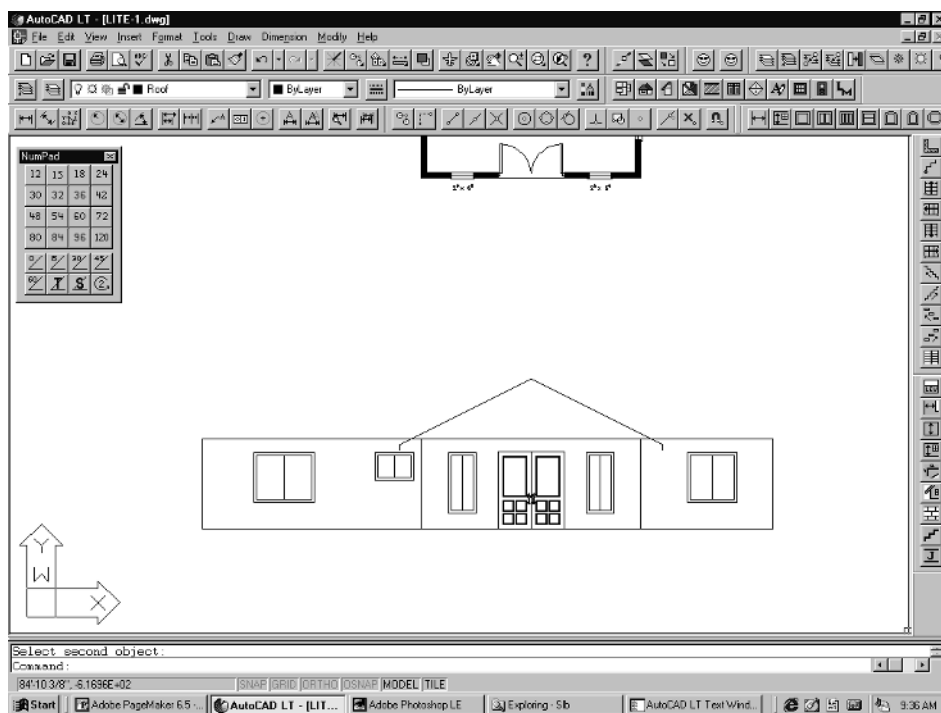

Figure 6-76
3. The Elevation Menu will pop up again. Select the **Right Hip** button and follow the same steps. Don't worry about how long the roof lines are. You can always trim them later. See Figure 6-76.